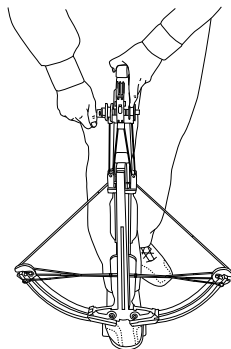

Figure 18
- 6.6 Place one foot securely into the cocking stirrup. Turn the crank handle smoothly until the cocking winch draws the bowstring back into the trigger mechanism until the crossbow safety moves to the "Safe" position. The crossbow is now fully cocked (See Figure 18).